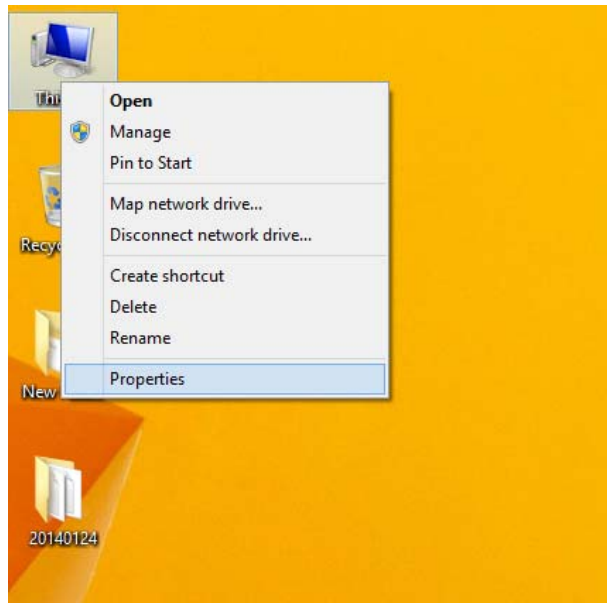

Figure 6-13: Windows Control Panel
Step 1: Right-click the Computer button from the start menu and select **Properties** (Figure 6-13).